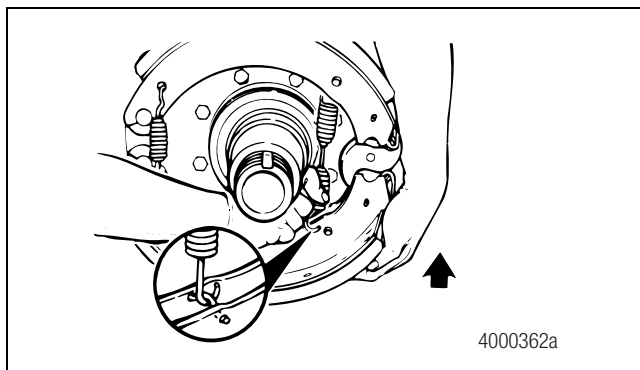

Figure 5.25
3. Rotate the lower brake shoe forward. Install a new brake shoe return spring with the open end of the spring hooks toward the camshaft. Figure 5.25.